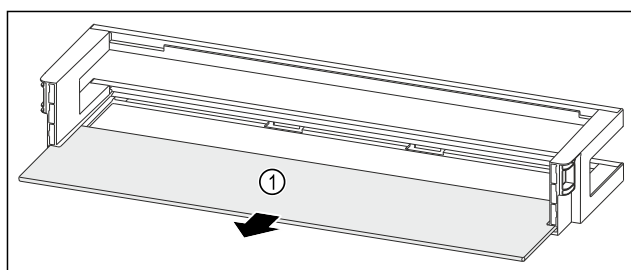

Fig. 76 Door racks with shelf
- Remove the shelf Fig. 76 (1).